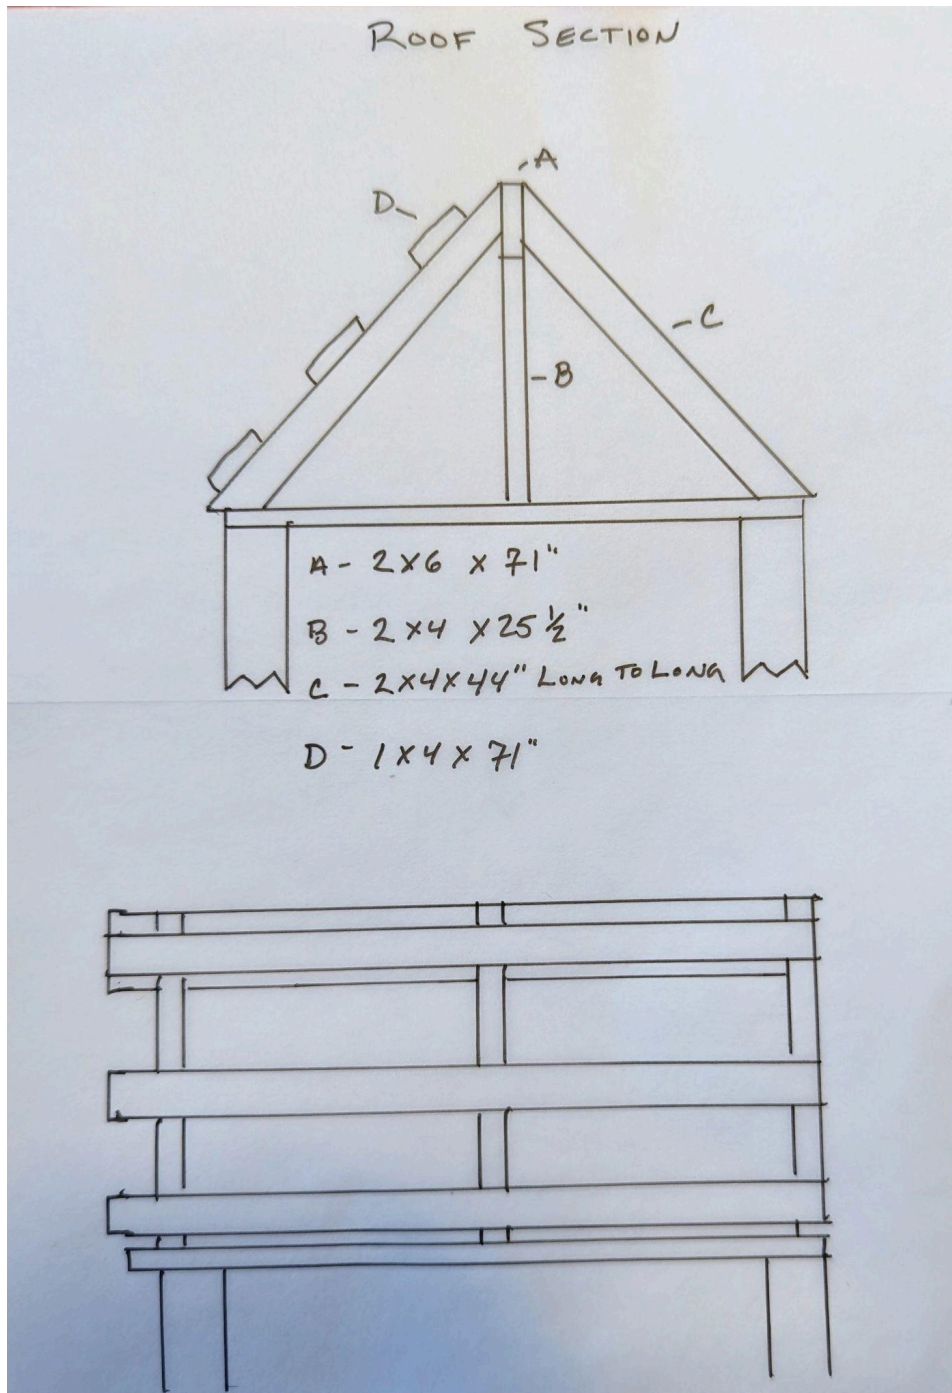

Figure 7
Step 5: Assemble the roof section. See Figure 7